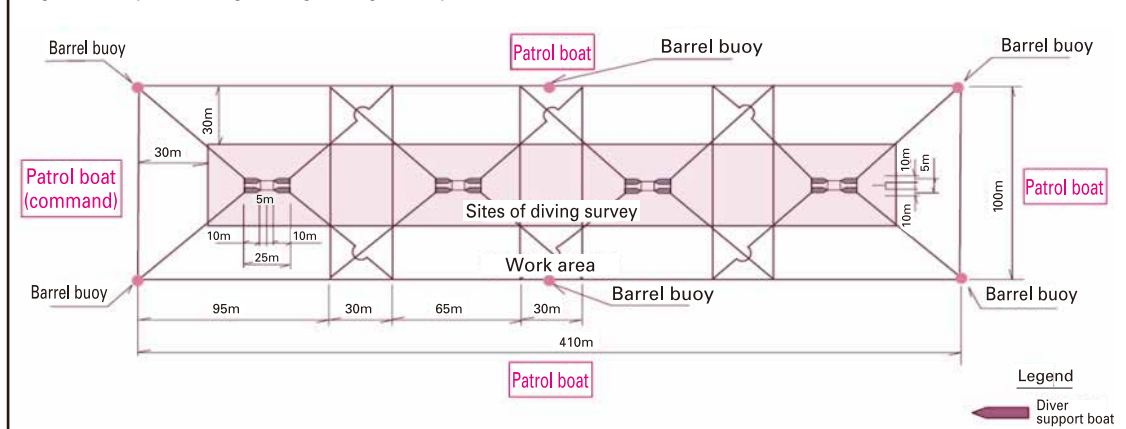

Fig. 3 Diver support boat marking
- 3) On the diver support boats, international signal flag A will be flown to clearly show that divers are in the water (Fig. 3).